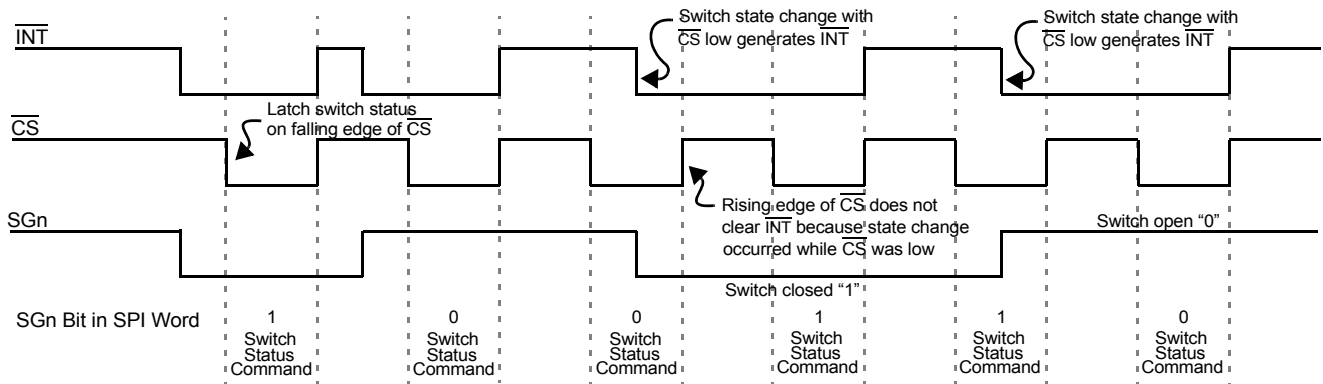

Figure 6. Normal Mode Interrupt Operation
1.  $\overline{INT}$  pin is reset to logic [1], except when additional switch changes occur during  $\overline{CS}$  low (see Figure 6, page 11).
Figure 6, page 11, is a graphical description of the device operation in Normal Mode. Switch states are latched into the input register on the falling edge of  $\overline{CS}$ . The  $\overline{INT}$  to the MCU is cleared on the rising edge of  $\overline{CS}$ . However,  $\overline{INT}$  will not clear on the rising edge of  $\overline{CS}$  if a switch has closed during SPI communication ( $\overline{CS}$  low). This prevents switch states from being missed by the MCU.